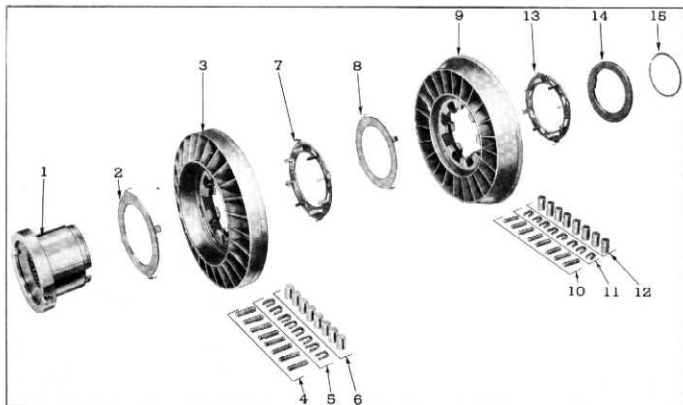

Fig. 84—Layout of Stator Parts
- Figure 84 shows layout of stator parts.